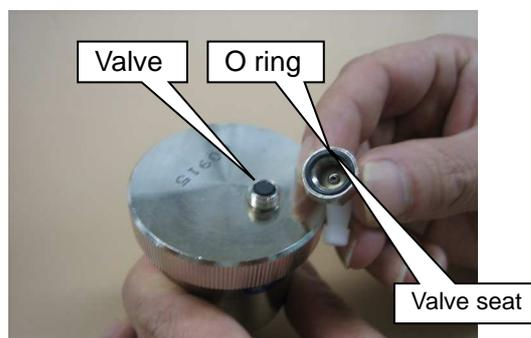

Fig. 4
- By removing valve seat, seal surface of valve and valve seat can be cleaned. Clean off scale and dust adhering to valve and valve seat with waste cloth. (see Fig. 4)